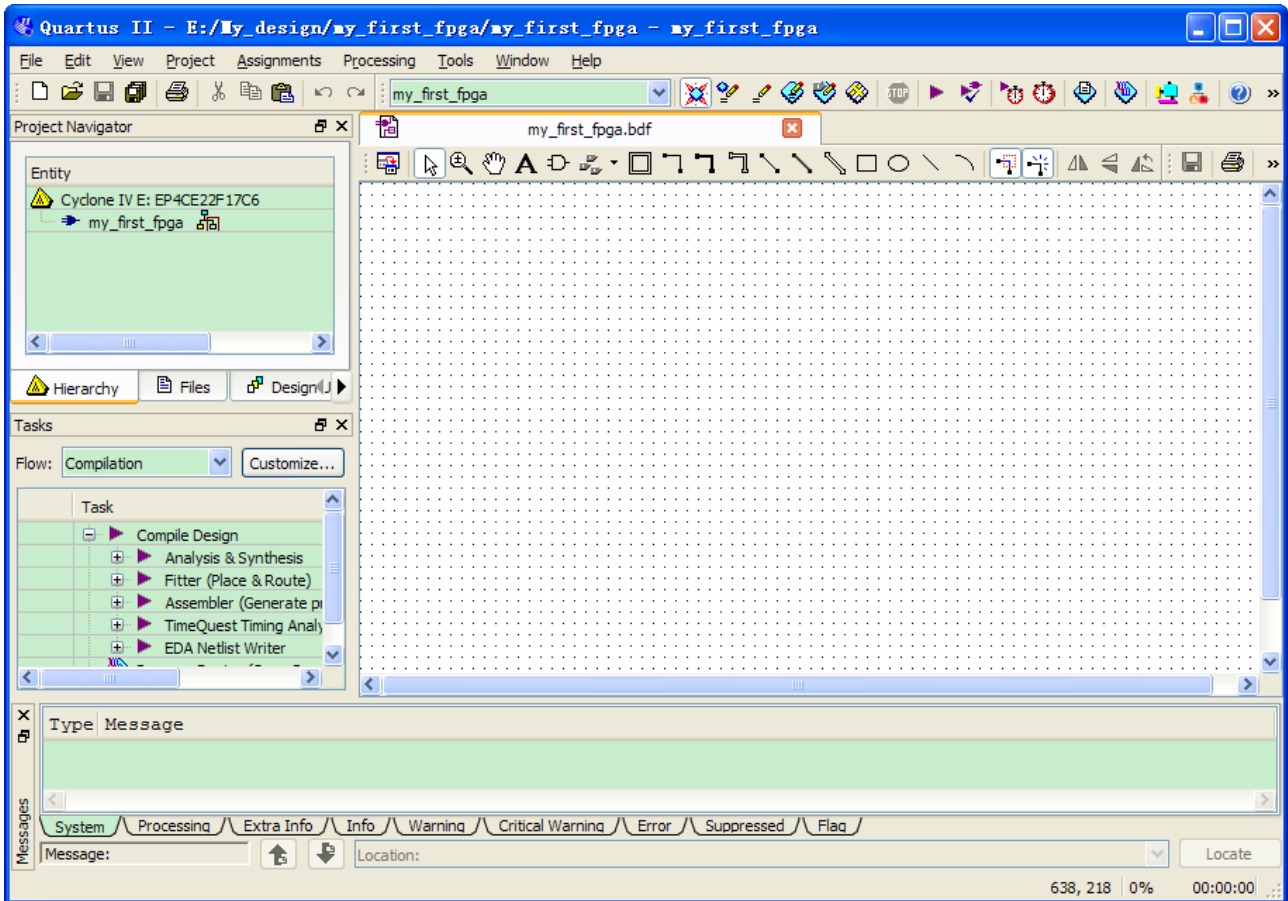

Figure 6-13 Bank BDF
4. Click Save. The new design file appears in the Block Editor (see Figure 6-13).